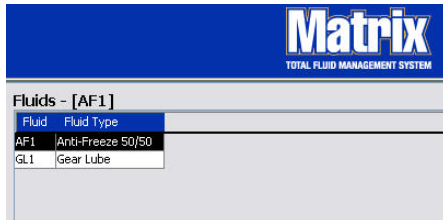

FIG. 97
6. To modify the name assigned to a fluid or the type of fluid assigned to a name (FIG. 97) highlight the entry listed on the main Fluids screen.